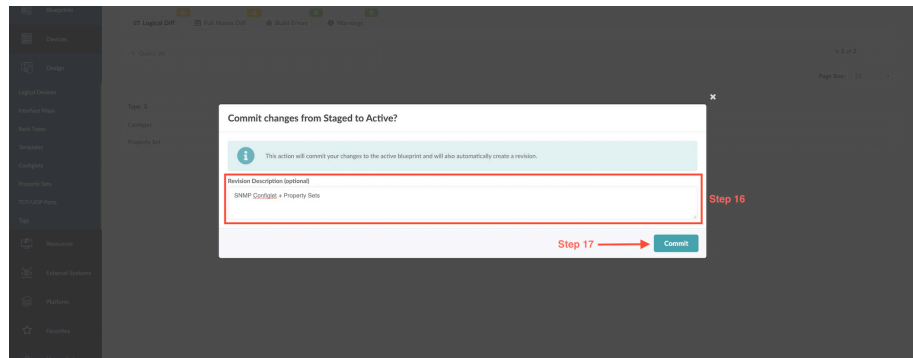

Figure 7.26 Committing Staged Configuration
Step 15: Provide a useful commit message. Adding a description is highly encouraged before committing, because otherwise it's not all that easy to remember which revision is which in Time Voyager, as discussed later in this chapter. See Figure 7.26.